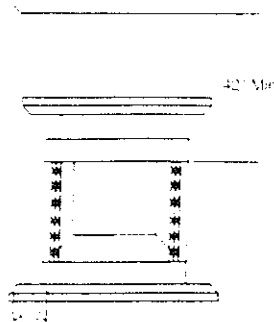

Figure 2. Front View of Fire Box Clearances.
3. Ceiling Clearances: The ceiling height should not be less than 42" from the top of the fireplace opening (See Figure 2).